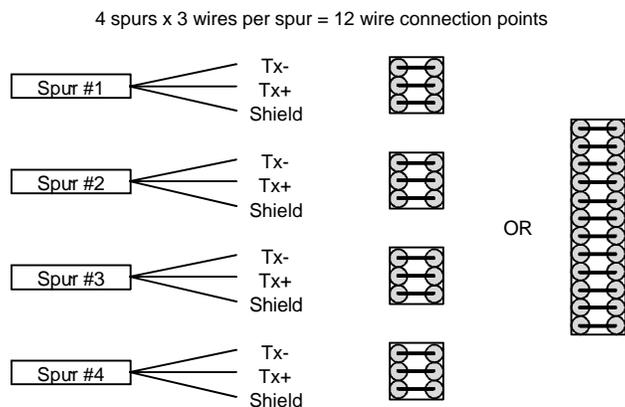

Figure 3 – Determining the Number of Jumper Block Connector Points
2. Provide jumper blocks with enough connector points to support three times the number of spurs (each spur has three wires: Tx-, Tx+, and Shield). This can be individual jumper blocks with three connectors for each spur or one large jumper block with enough connectors to handle all 3 sets of wires from all spurs (see Figure 3).